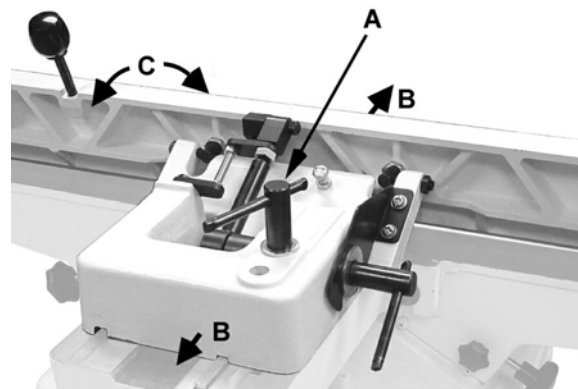

Figure 11
The fence can be moved forward or backward across the width of the table (B, Fig. 11). It also tilts up to 45 degrees forward and has a positive stop at 90 degrees.
1. Loosen the *locking handle* (A, Fig. 11).
2. Push the entire fence assembly (B, Fig. 11) to the desired position, and tighten the locking handle.